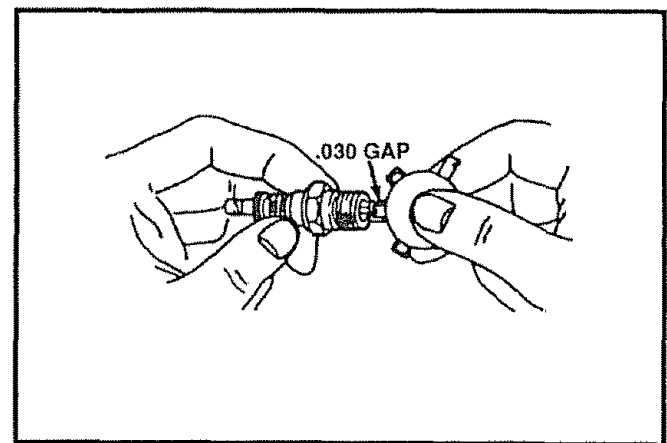

FIG. 41
- Be sure the spark plug is clean and free of foreign material. Check electrodes gap (See Fig. 41) with a wire feeler gauge and reset the gap to .030 inch if necessary.